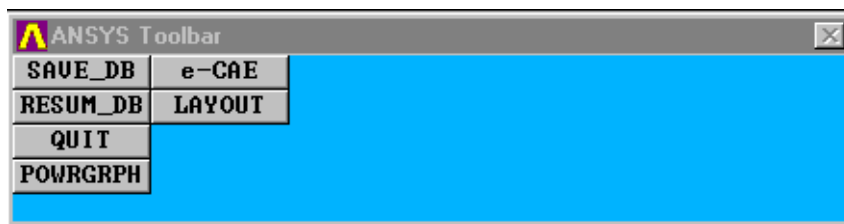

Figure 24: **ANSYS Toolbar** menu
- ☑ Click **LAYOUT** in the ANSYS Toolbar (Figure 24), or **Export CIF Files** in the **3-D To Layout** menu.